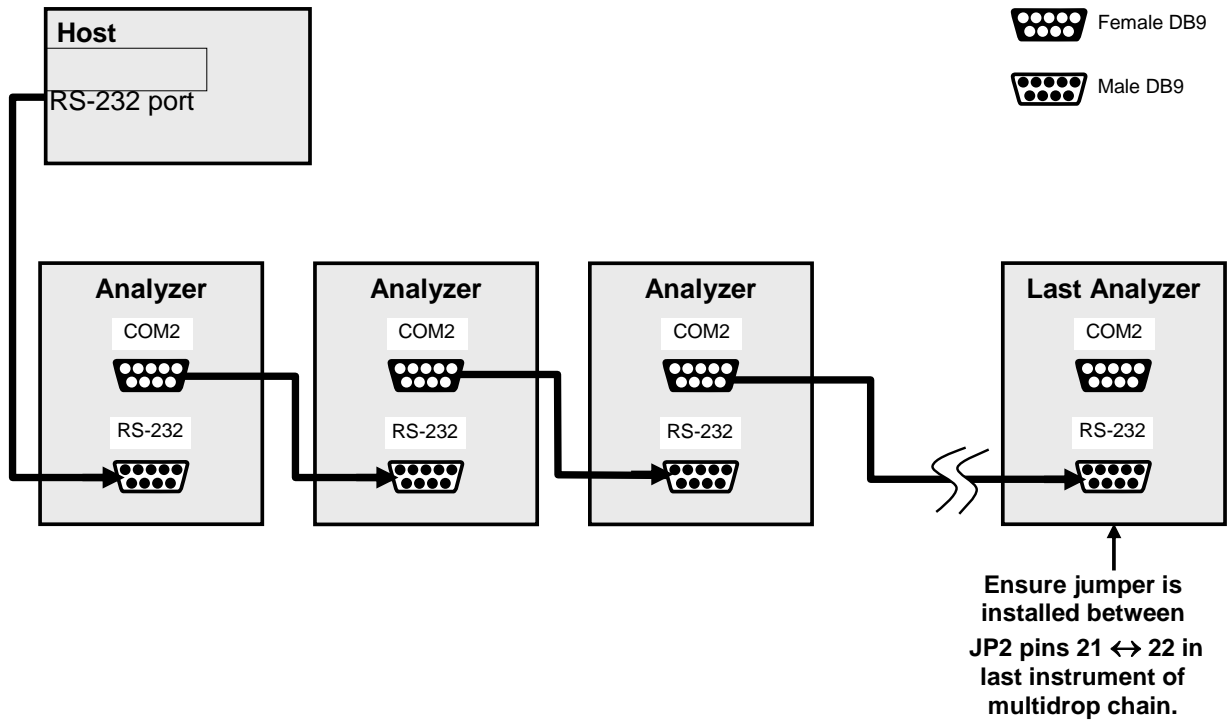

Figure 9-4: RS-232-Multidrop PCA Host/Analyzer Interconnect Diagram
4. Referring to Figure 9-4 use straight-through DB9 male → DB9 female cables to interconnect the host RS232 port to the first analyzer's RS232 port; then from the first analyzer's COM2 port to the second analyzer's RS232 port; from the second analyzer's COM2 port to the third analyzer's RS232 port, etc., connecting in this fashion up to eight analyzers, subject to the distance limitations of the RS-232 standard.